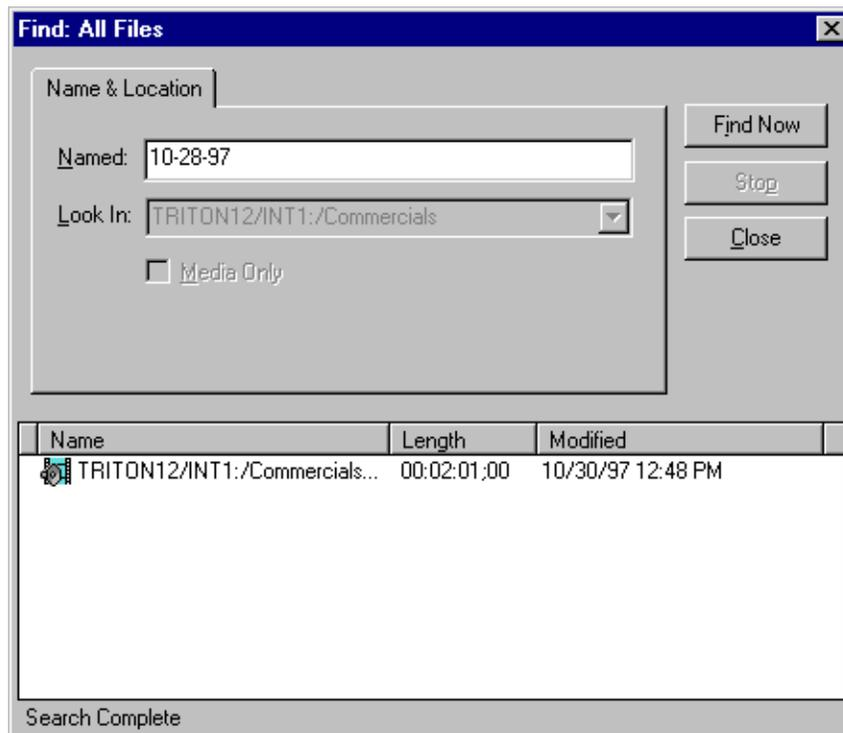

Figure 52. Find dialog box
2. Choose **Find** on the **Edit** menu or from the shortcut menu with a right-click. The Find dialog box appears (see Figure 52).
4. Click **Find Now**. Click **Stop** to abort the search. When a match is found, the result is displayed in the box at the bottom of the **Find** dialog box, as shown in Figure 52.